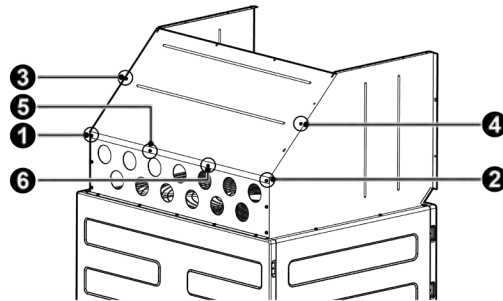

Fig. 3.6
Step 3: installation of Top Plate 2. Please refer to Fig 3.6 for the installation location and sequence of screws.